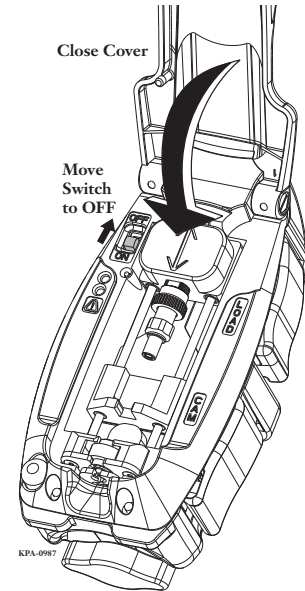

Figure 45 — Store Tool After Use
Step 8: When finished installing connectors, press the Reset Button, slide the Power Switch to the OFF position, close the cover, and return the tool to the toolkit (Figure 45).